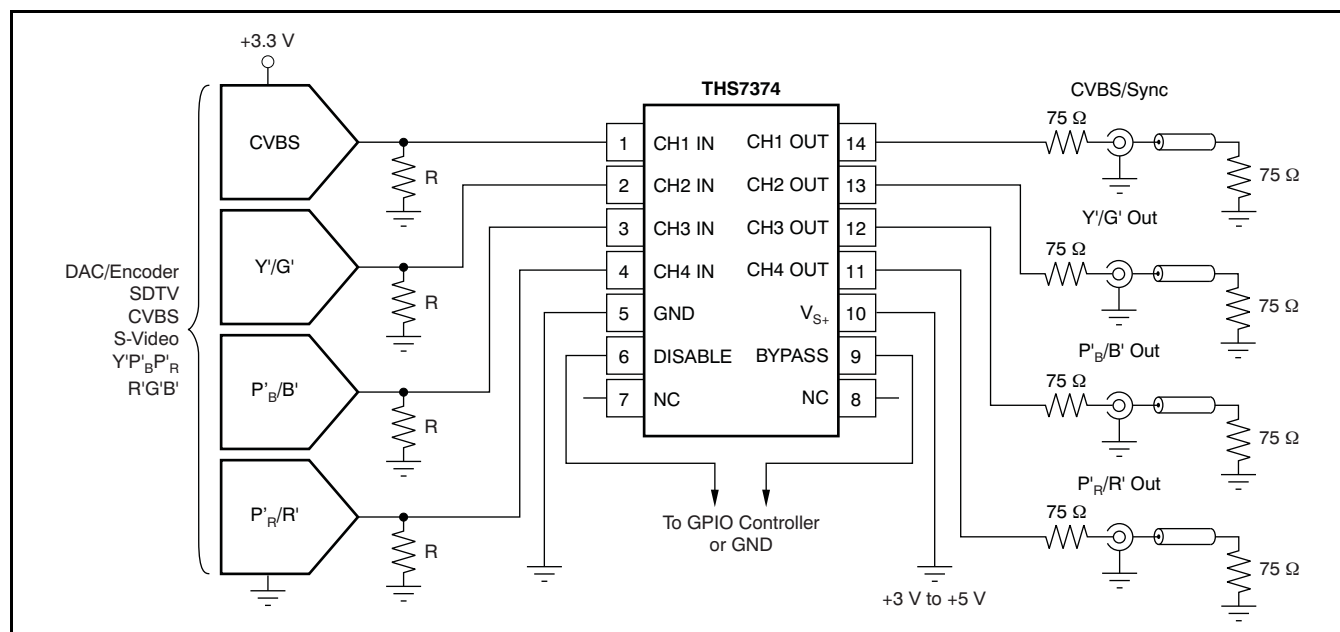

Figure 57. Typical SDTV CVBS/ $Y'P'_BP'_R$  Inputs from DC-Coupled Encoder/DAC with DC-Coupled Line Driving
A typical application circuit that uses the THS7374 as a video buffer is shown in Figure 57. It shows a DAC or encoder driving the input channels of the THS7374. One channel is a composite video (CVBS) channel of a standard definition (SD) video system. The other channels are the component video  $Y'P'_BP'_R$  (sometimes labeled  $Y'U'V'$  or incorrectly labeled  $Y'C'_B'C'_R$ ) signals of a 480i or 576i system. These channels could easily be the s-video  $Y'/C'$  channels or the  $R'G'B'$  channels of a SCART system.